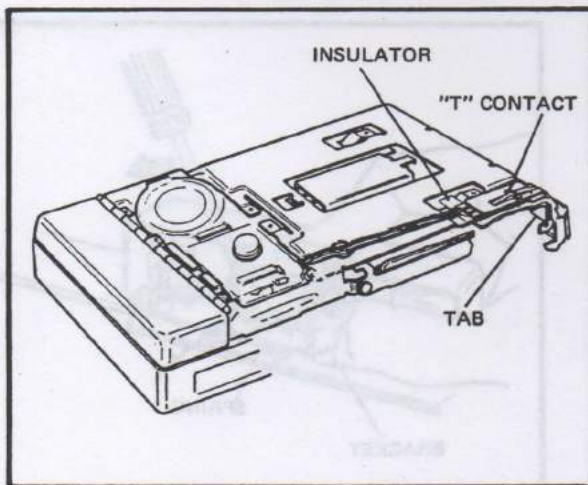

FIG. 5.40 CHECKING THE SWITCH UNDER LOAD
- b. If the reading in 2a is INFINITY, depress the switch tab (Figure 5-40). The reading should be ZERO. If it is not, check the "T" contact to be sure that both arms are touching the contacts. If either arm is not touching, tweak that arm until it does touch the contact. If the arms are touching the contact and the reading is still INFINITY, spray the arms and contacts with "Hush" (red can) contact cleaner and recheck the reading. If the reading is still not correct, replace the timer.
2. Lift the switch from the spider and remove the insulator. (Refer to Figure 5-40.)